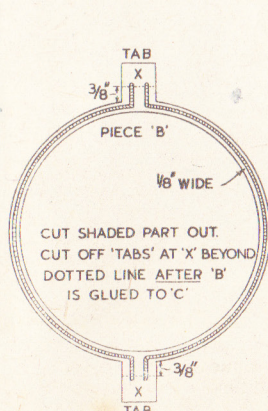

Fig. 2—The second layer
Next, piece (B) (only) is cut further, as at Fig. 2, and glued and pinned on to (C) in its original position. When set the extension pieces of the tabs marked